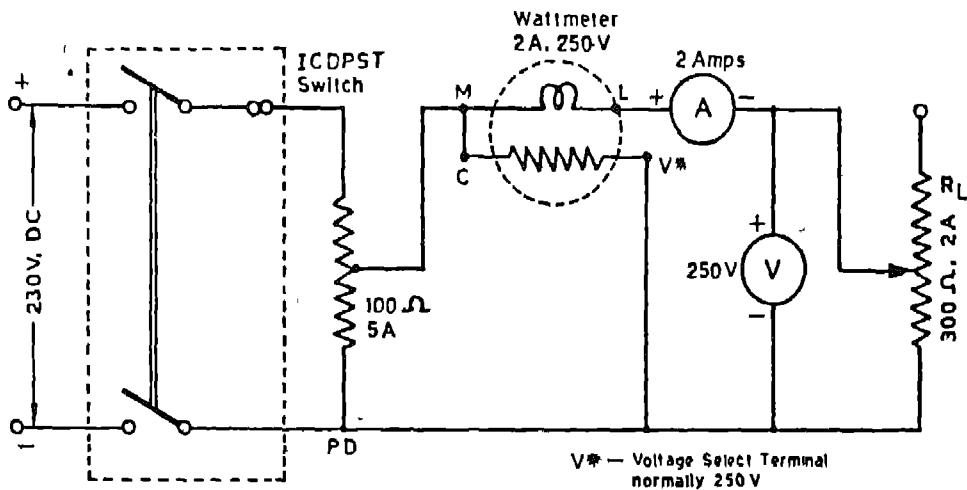

Fig. 7.1 Measurement of Power
- (i) Connect the wattmeter as shown in Fig. 7.1.
- (v) Vary the output voltage of potential divider (PD) and record the readings of (A, V and wattmeter).
- (vi) Keep the (PD) sliding point at maximum and vary the "load" resistance and take the readings of (A, V and wattmeter) DO NOT exceed the current limit while varying load resistance.